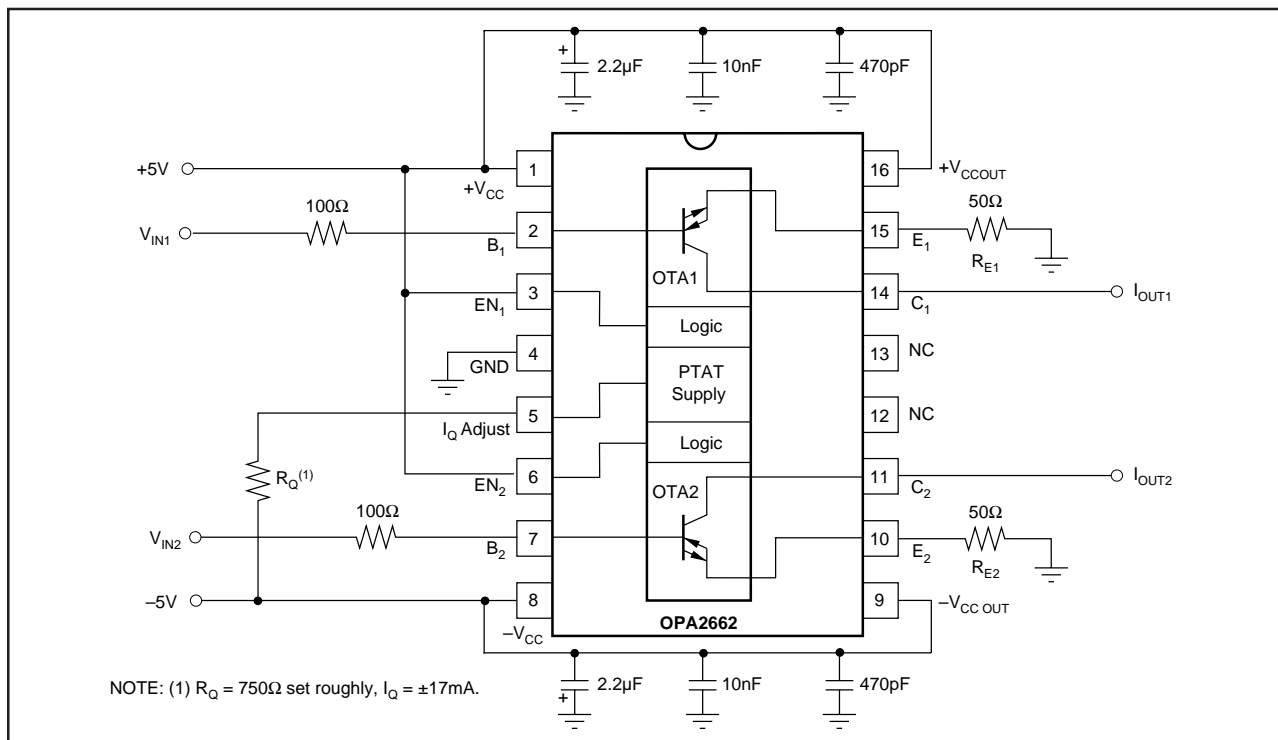

FIGURE 6. Basic Connections.
Shown in Figure 6 are the basic connections for the OPA2662's standard operation. Most of these connections are not shown in subsequent circuit diagrams for better clarification. Power supply bypass capacitors should be located as close as possible to the device pins. Solid tantalum capacitors are generally the better choice. For further details see the "Circuit Layout" section.
200ns at full output power ($I_{OUT} = \pm 75\text{mA}$). This enable feature allows multiplexing and demultiplexing, or a shut-down mode, when the device is not in use. If the EN-input is connected to ground or a digital "Low" is applied to it, the collector (C) and emitter (E) pins are switched in the high-impedance mode. When the EN-input is connected to +5V ($+V_{CC}$) or a digital "High" is applied to it, the corresponding OTA operates at the adjusted quiescent current. The initial setting for the enable pins is that they are connected to the positive supply as shown in Figure 6.